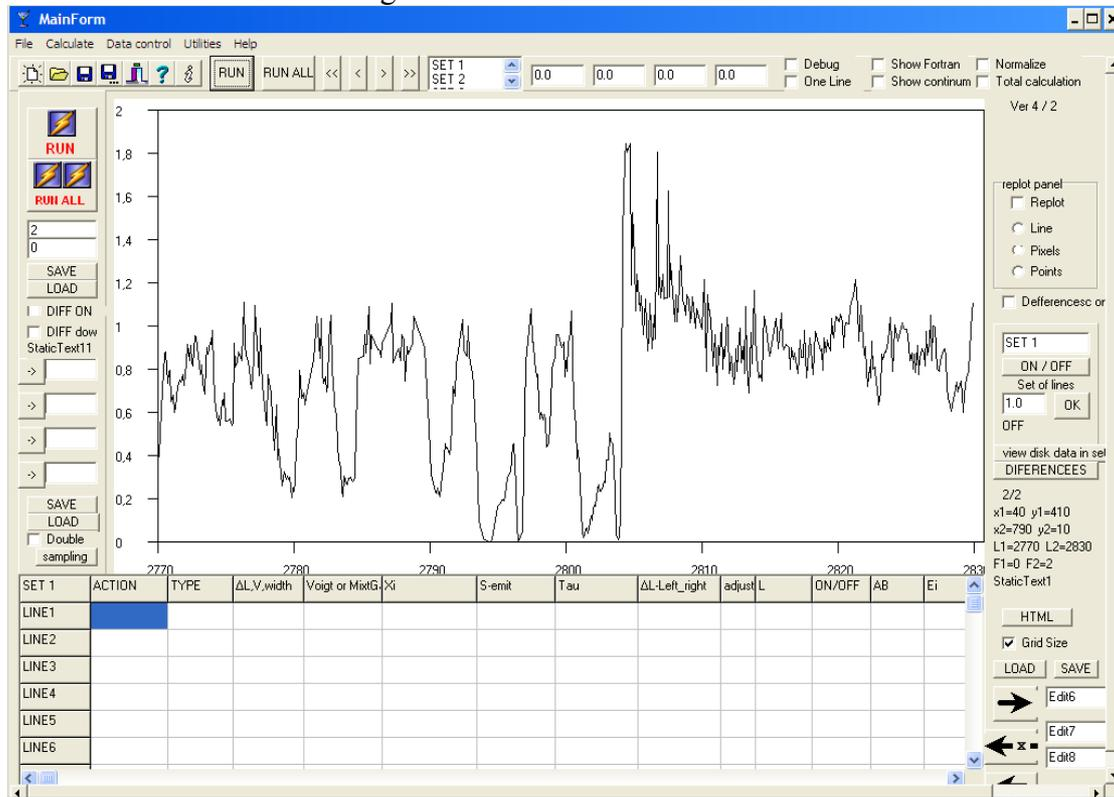

Figure 1.12
- (e) The **GO ON** button (Figure 1.11b) leads to DMVL software (Figure 1.12), with which we will analyze the spectrum. On the **File** menu, click **Save As...** and give the extension **.rrks** to the file that will be saved.